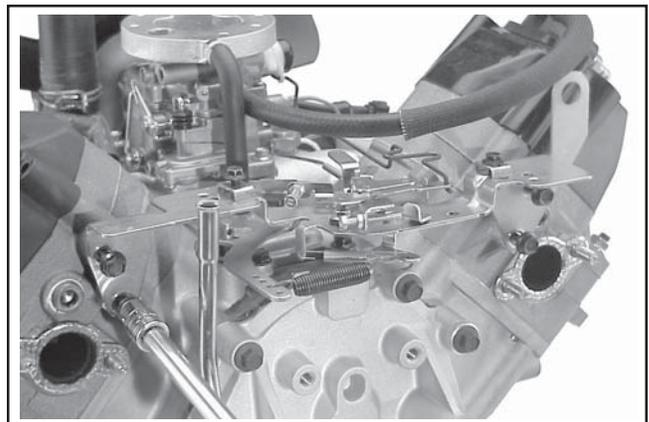

Figure 9-18. Removing the Four Screws From Main Control Bracket.
1. Remove the four hex flange screws securing the main control bracket to the cylinder heads. See Figure 9-18.